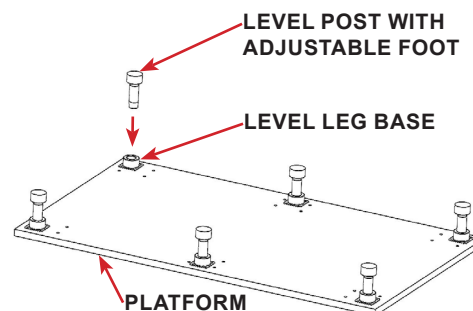

FIGURE 2.9 - Leg Installation
STEP 3: Insert a leg into each of the leg bases, twist slightly to seat the leg into the socket. See FIGURE 2.9